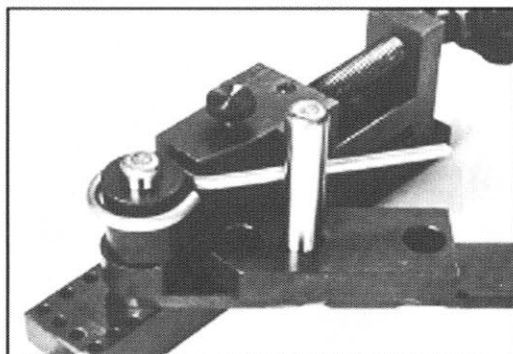

Figure 5
11. Move the handle counterclockwise until it meets the bender, as shown in Figure 5.